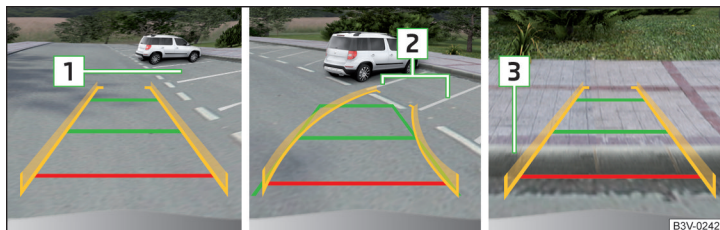

Fig. 281 Screen display
- › At the selected parking space **1** » Fig. 281 slowly drive past and stop the vehicle.